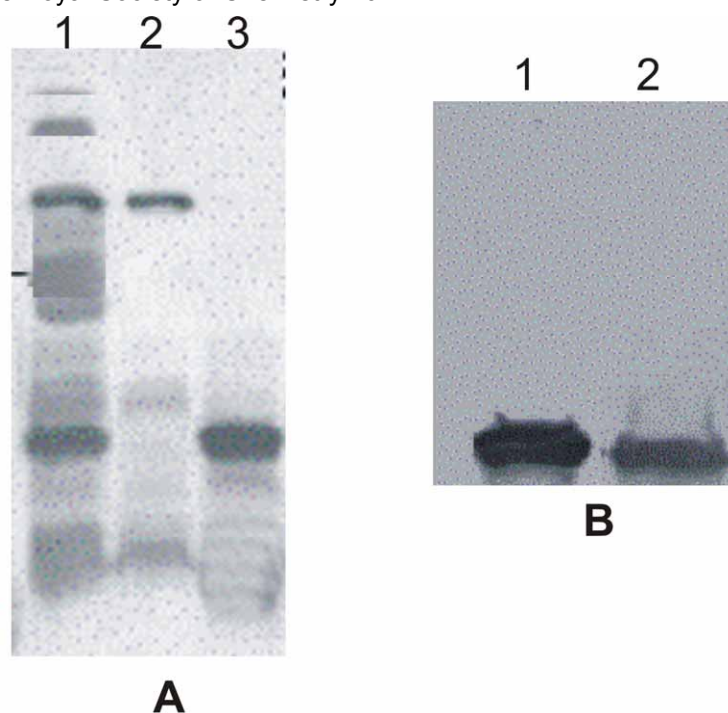

Figure S6
Figure S6. Purification of α -synuclein expressed in *E. coli* BL21 cells. Purification of α -synuclein was carried out by acid treatment and anion exchange chromatography, as per the reported protocol.⁴² The purity of the samples was checked by (A) SDS-PAGE and (B) Western blotting. Samples were loaded on 15 % crosslinked denaturing polyacrylamide gel. After the electrophoretic run, the gel was silver stained. For (A), Lane 1: Bacterial lysate, lane 2: flowthrough; lane 3: purified protein. Protein load was equal in all the lanes. For western blotting, proteins were transferred electrophoretically to nitrocellulose membrane (0.45 μ m). After blocking overnight, the membrane was incubated with anti- α -synuclein monoclonal antibody followed by anti-mouse horseradish peroxidase (HRP)-conjugated antibody as the secondary antibody. The presence of the bands was visualized by adding 1% (v v⁻¹) tetramethyl benzidine/hydrogen peroxide (TMB/H₂O₂). For (B), Lane 1: Bacterial lysate; lane 2: Purified protein.